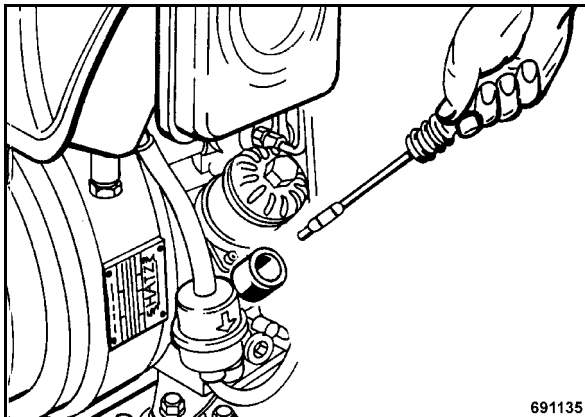

Fig. 59
- Pull out the oil dipstick (Fig. 59).